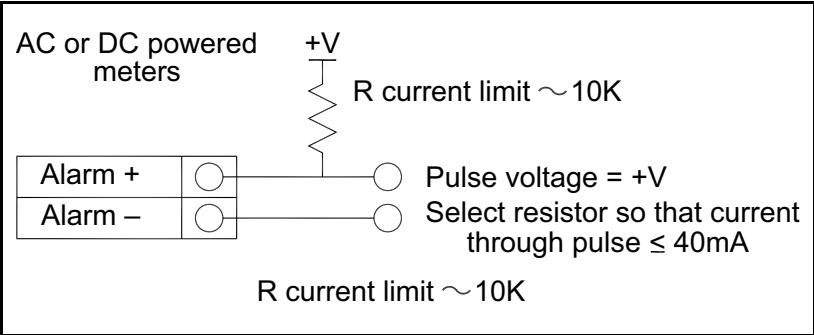

Figure 41: Isolated Alarm Output with External Power Supply
- For AC or DC powered meters, use a separate 5 to 36 VDC power supply (see *Figure 41 on page 45*). Use this option if a specific voltage is needed for the alarm output.